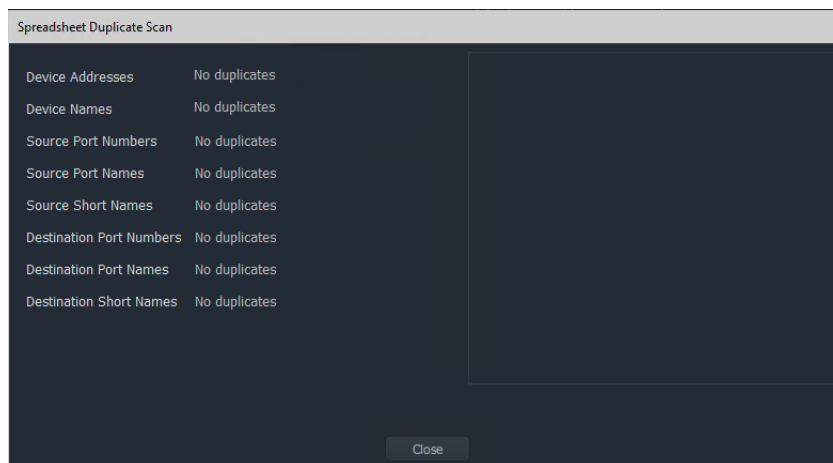

Fig. 19-15: Spreadsheet Duplication Dialog
- the result of these checks is shown in a summary **Spreadsheet Duplicate Scan** dialog, which pops up. See Figure 19-15.